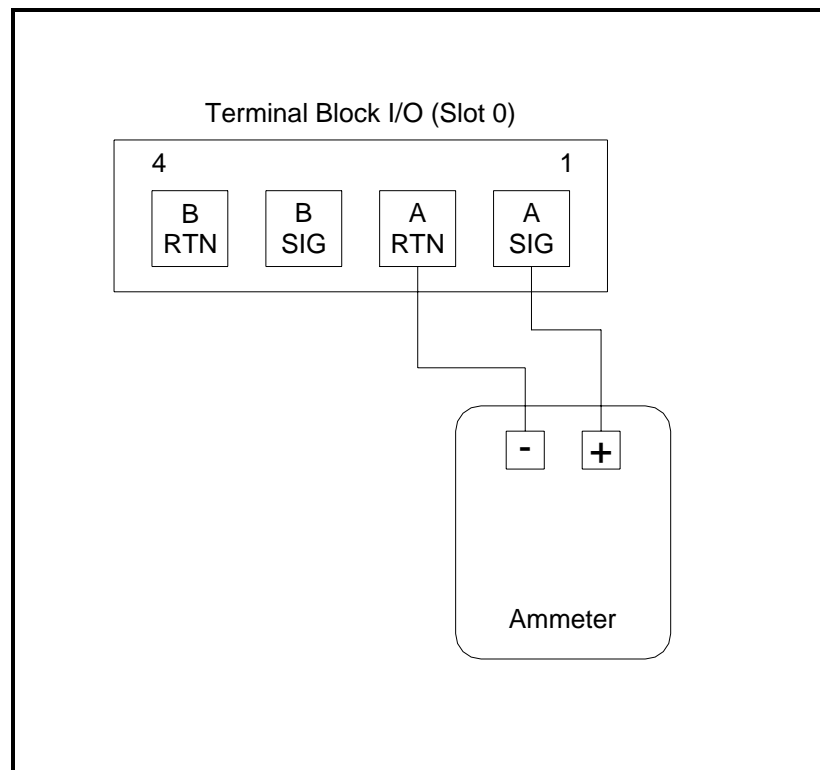
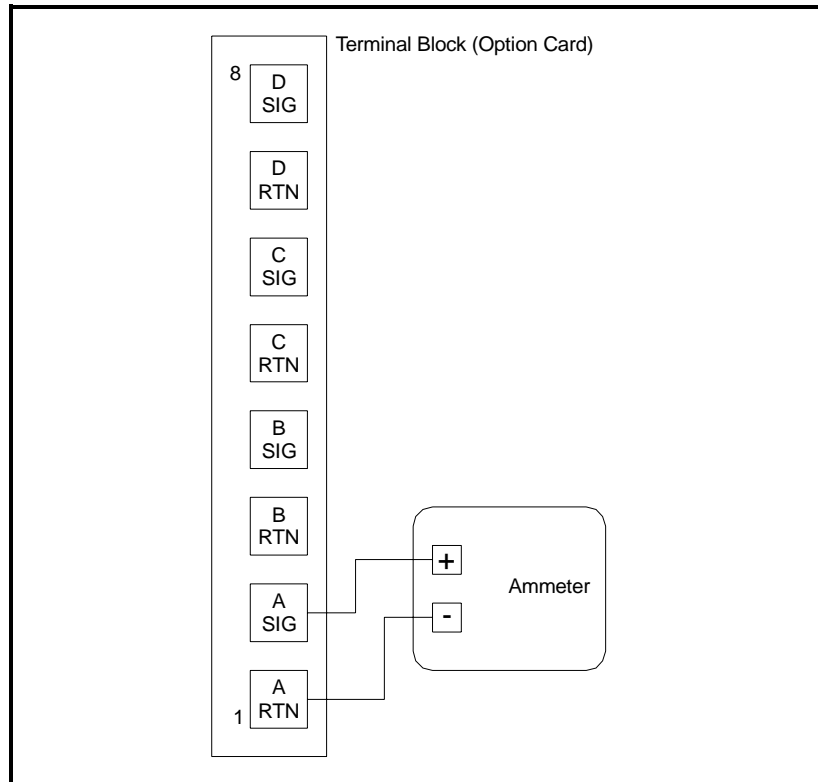

Figure 1-1: Ammeter Connection (Output A)
Figure 1-2: Ammeter Connection for Slots 1-6 (Output A)
Prepare for the calibration procedure by connecting an ammeter to the desired analog output of Slot X, as shown in Figure 1-1 below and Figure 1-2 on page 1-3. Refer to Figure 1-6 on page 1-15.
**IMPORTANT:** *The procedure for calibrating all the outputs is the same. However, when calibrating a different output, be sure to reconnect the ammeter to the appropriate pins on terminal block I/O. Refer to Figure 1-1 on page 1-2 or Figure 1-2 above for correct pin numbers.*